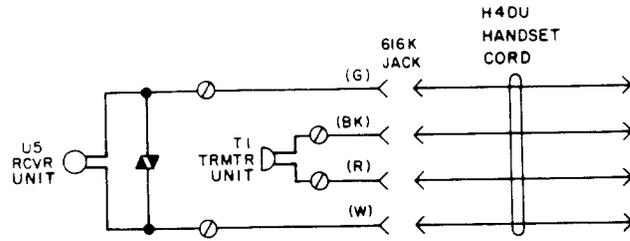

Fig. 4—K2A, K2C, and K2D Internal Handset Connections
**3.02** Refer to Fig. 4 for electrical schematic diagram of K1A (MD), K2A, K1C (MD), K2C, K1D (MD), and K2D handsets.